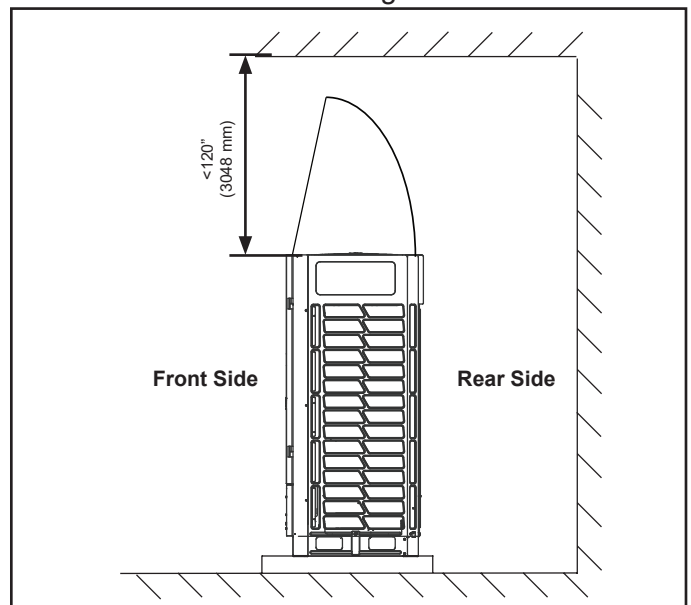

Figure 4. Obstructions Above the Unit
- Allow at least 120 in. (3048 mm) clearance above the unit. If an obstruction above the unit does not allow for adequate clearance, a field-supplied discharge duct is required. The discharge duct should be installed in such a way as to ensure that discharge air goes beyond the obstruction and does not cause recirculation of discharge air. Ensure that the static capabilities of the outdoor unit are not exceeded. Figure 4.